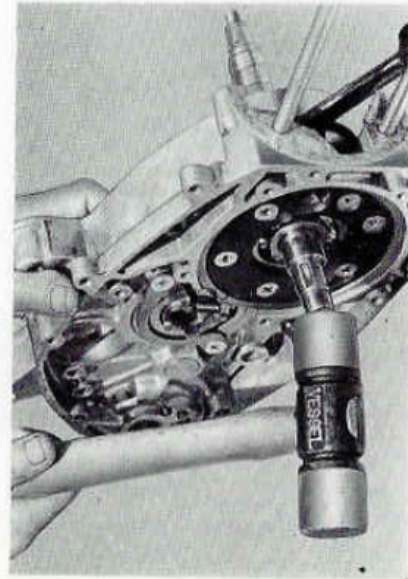

Fig. 8-2-28
29. Remove the **crankshaft** from the crankcase right half by striking the right end of the crankshaft with a plastic or wooden hammer. (Fig. 8-2-28)